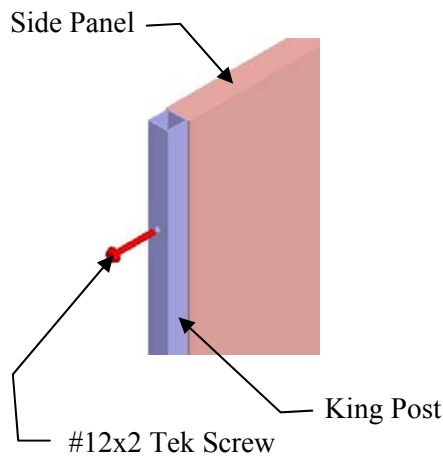

Figure 14
1. Attach a King Post to the first Side Panel on the far left using 2" Self-Drilling Tek Screws through the pre-drilled holes (**Figure 14**). The King Post should always mount to the short front end of the Side Panel.